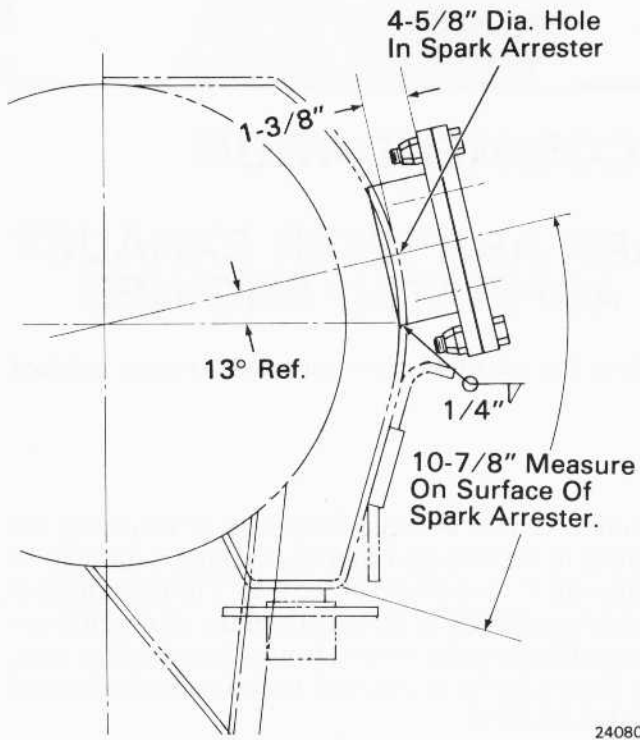

Fig.1 - Application Of Clean-Out Cover
**REFERENCES:** Figs. 1 and 2 of this publication.
2. Cut 4-5/8" dia. hole at location indicated, Fig. 1.